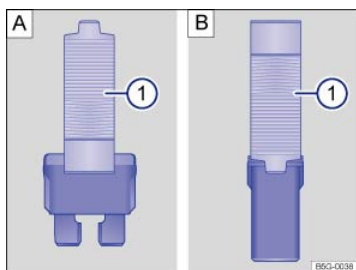

Fig. 150 Removing or installing a blade fuse with the plastic tweezers: : Blade fuse. : JCASE® fuse.
- Depending on the type of fuse, slide the tweezers ⇒ Fig. 150 A ① or ⇒ Fig. 150 B ① onto the fuse from the side.
- If the fuse is blown, replace the fuse with a new fuse of the *same* amperage (same color and same imprint) and *same* size ⇒ ①.